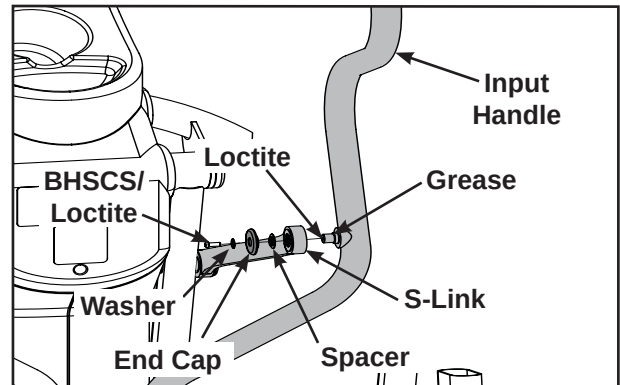

Figure 2
See Figure 2.
- B.** Place a drop of Loctite (H) to the threads of each BHSCS removed in step 5A and another drop inside the shaft into where each BHSCS will be tightened.
- C.** Install the spacer, end cap, washer and BHSCS/loctite as shown Figure 2.
- A. Using a 5/32" Allen wrench, remove the Button Head Socket Cap Screw (BHSCS), washer, end cap and spacer securing the S-link to the input handles. See Figure 2.